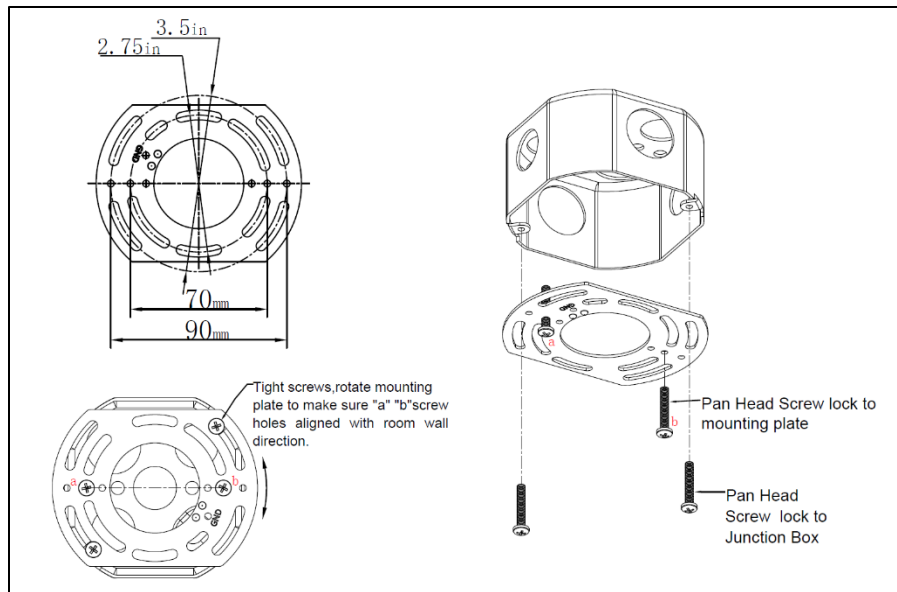

Figure 8
1. Install two screws (1) into threaded holes “a” & “b” with screw head ¼ from being flush with the mounting plate. (See Figure 8)
2. Check the junction box mounting hole dimension to decide which pair of mounting plate slots to use. Install two screws (1) into threaded holes in junction box, rotate mounting plate to make sure “a” “b” screw hole aligned with the room wall direction before tight screws and secure the mounting plate. (See Figure 8)